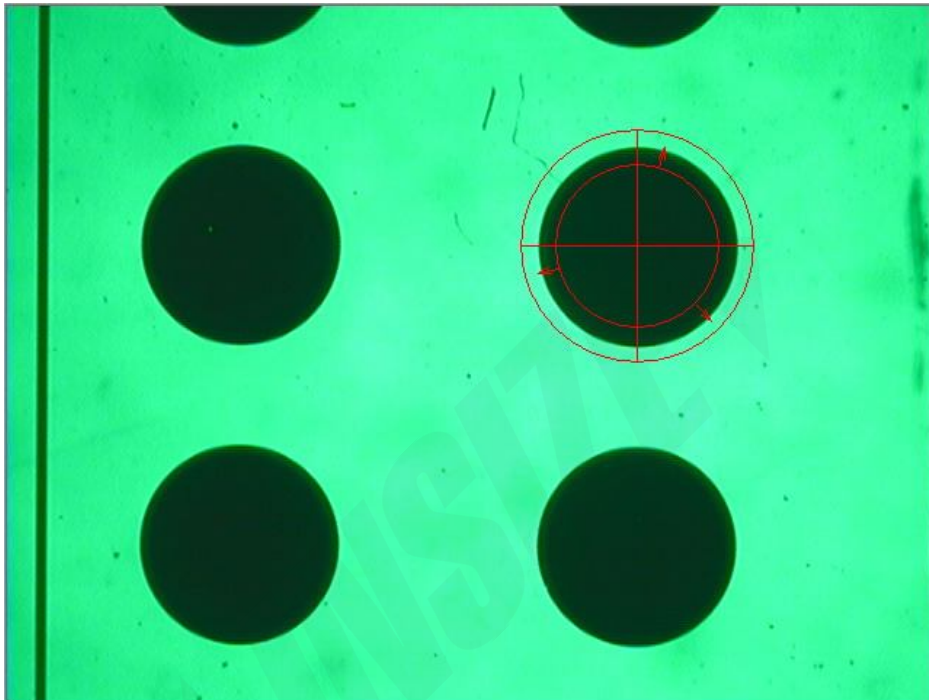

Fig.4-2
4. Put the mouse near the circle and click the left key, the intelligent edge detecting button will appear (Fig.4-2).